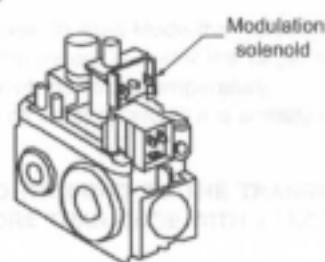

Figure 2
5. Plug the orange cable labeled "Solenoid" to the modulation solenoid of the gas valve. See Fig. 2.